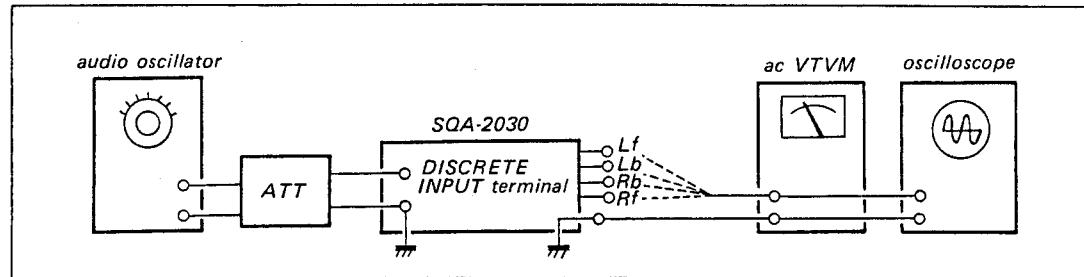

Fig. 3-2. Discrete output level check setup
- Lf: FRONT PREAMP OUTPUT (L) terminal
- Rf: FRONT PREAMP OUTPUT (R) terminal
- Lb: BACK SPEAKER OUTPUT (L) terminal
- Rb: BACK SPEAKER OUTPUT (R) terminal
2. With the equipment connected as shown in Fig. 3-2, feed 1 kHz/-15 dB signal to the each DISCRETE INPUT terminal of SQA-2030.